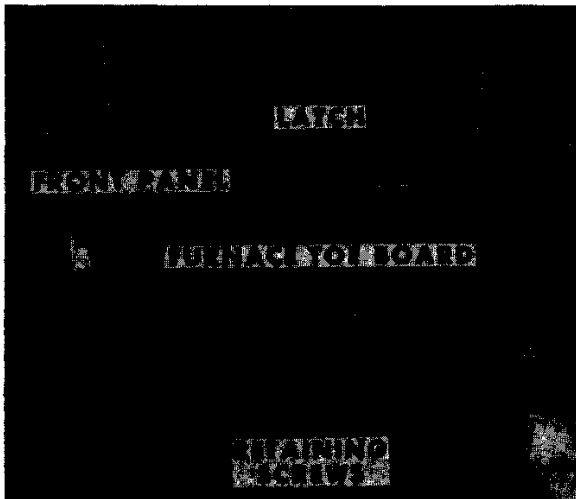

Figure 5 — Removal of Furnace Toe Board
2. Remove toe board in front of furnace at floor level (Figure 5) by removing two retaining screws. Then remove front panel from furnace.
6. Install furnace toe board with two retaining screws (Figure 5).